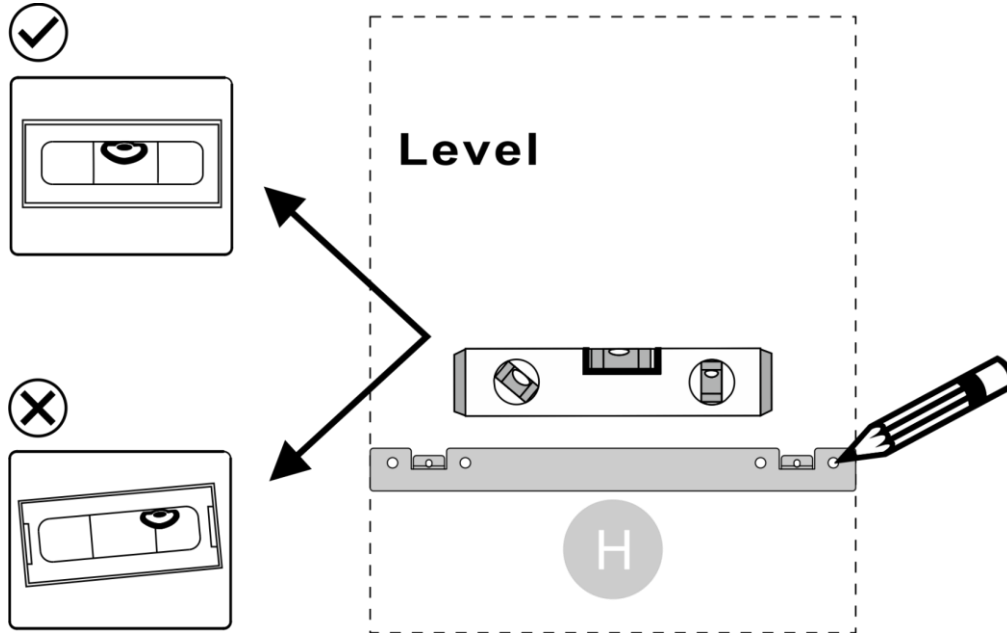

Fig. 15
- 02) Use the **wall bracket (H)** of the cabinet as a template and mark the drilling locations. Make sure that the alignment is correct as shown in Fig. 15.